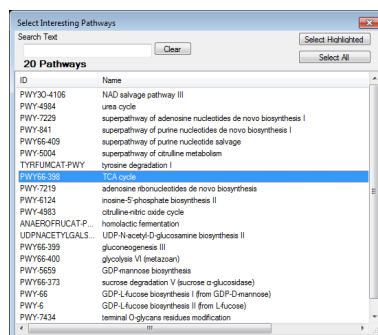

Figure 17 Select Interesting Pathways dialog box
- e Click **TCA cycle** pathway as shown in **Figure 17**.